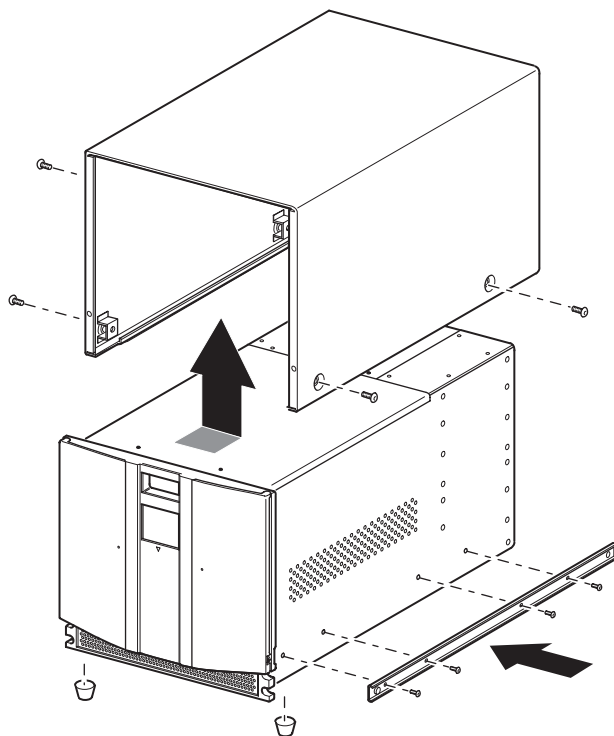

Figure 11: Converting a tabletop model (four-drive model shown)
1. Use the template that shipped with the library to mark the location of the mounting hardware on the mounting rails of the rack enclosure (see Figure 11). The black dots along the sides of the template indicate the top of a U.